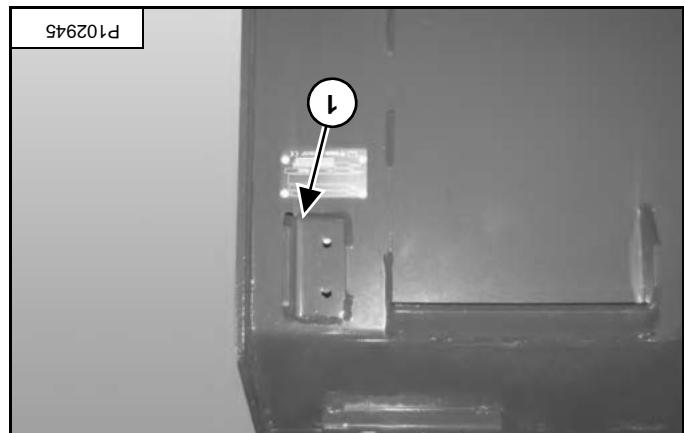

Figure 21
Allign the right outside edge of the Bob-Tach with the Bob-Tach centring guide (item 1) [Figure 21].